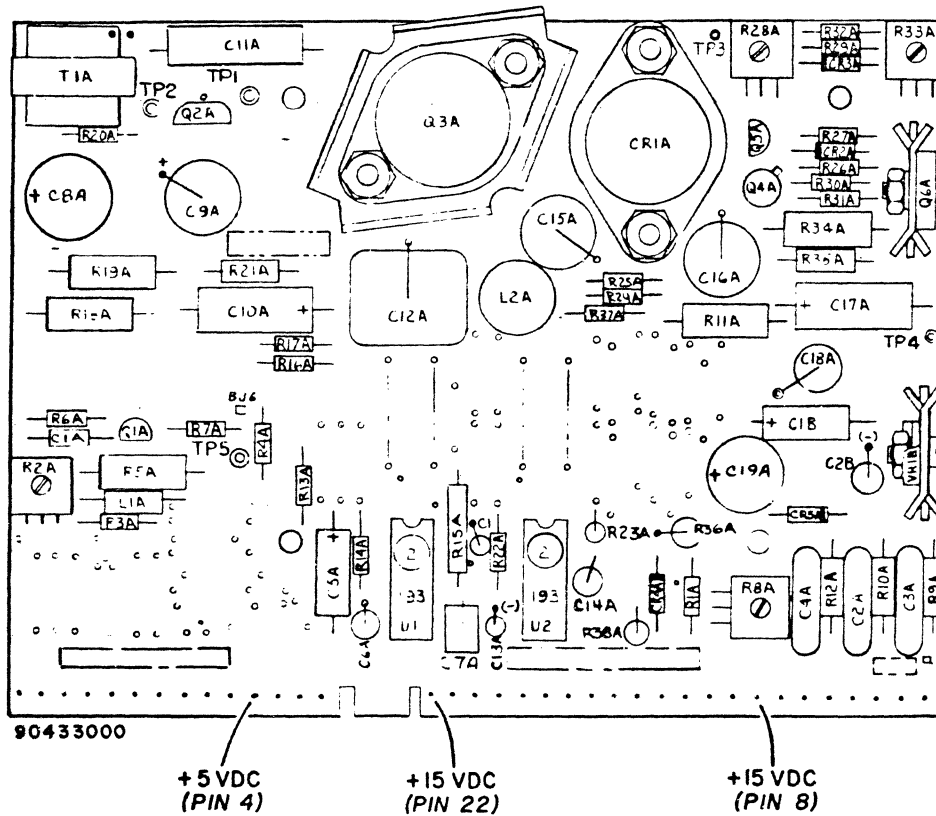

Figure CRT32. Test Pins for +5 and +15 VDC
- 20) Connect red (+) lead to pin 8 of BJ4 (figure CRT32).
- 24) Connect red (+) lead to pin 4 of BJ1 (figure CRT32).